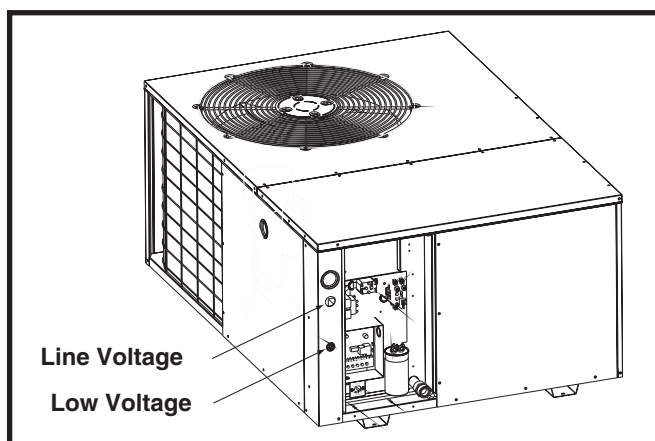

Figure 7. Power Entry Locations
- Provide power supply for the unit in accordance with the unit wiring diagram, and the unit rating plate. Connect the line-voltage leads to the terminals on the contactor inside the control compartment. Extend leads through power wiring hole. Connect **L1** & **L2** directly to the contactor. See Figure 7 \(page 6\) for power entry locations.
- The low voltage wires must be properly connected. Route 24V control wires through the sealing grommet near the power entrance. See Figure 7 \(page 6\). Connect the control wires to the defrost board and blower relay wire. Recommended wire gauge and wire lengths for typical thermostat connections are listed in Table 2.